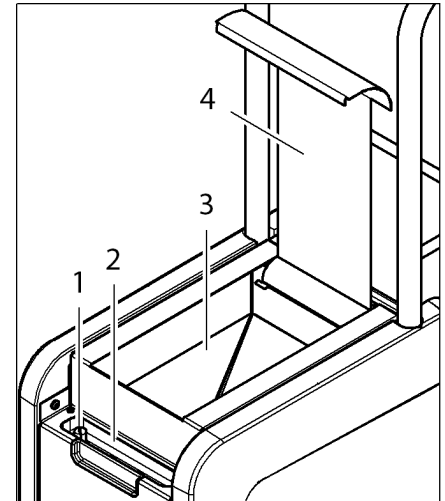

Fig. 5: Nozzle holder for four nozzles
There is a nozzle holder for four nozzles on the front of the dry ice blasting system (item 2 in Fig. 5).
- Open the cover flap (item 4 in Fig. 5) and remove a suitable nozzle (item 1 in Fig. 5).